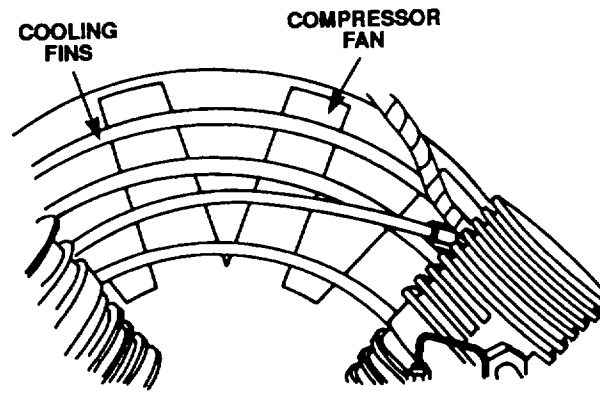

Figure 3-13. Compressor Fan and Cooling Fins
- b. Brush a non-ionic soap solution on compressor cylinder head fins, cooler fins, and fan (figure 3-13). Rinse well with clear water.